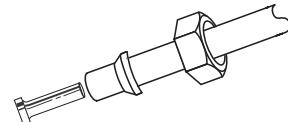
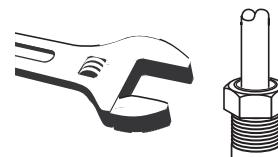

Figure 5
Figure 6
7. Take the remaining tubing, slip the compression hex nut and 3/8" ferrule onto the tubing (position the tapered end of the ferrule away from the hex nut) and put in the tube insert (See Figure 5). Fasten this assembly tightly onto 3/8" cold water supply outlet (See Figure 6). Pull on tube to make sure a good connection has been made. Connect other end to the inlet side of the filter head assembly as indicated by arrow (see Figure 4B).